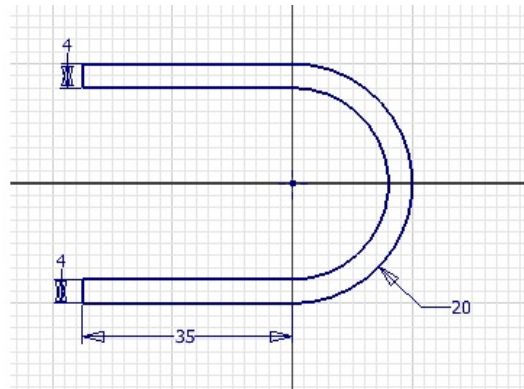

Figure 7-46 Sketch of the base feature
- a. Create the base feature, which is a reverse C-like feature. Its sketch will be created on the XZ plane and extruded using the **Symmetric** option, see Figure 7-46.
1. Start a new metric standard part file and then draw the sketch of the base feature on the XZ plane, as shown in Figure 7-46.